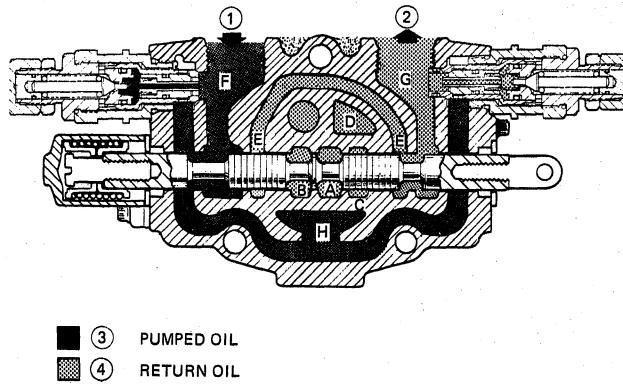

Figure 5
SPOOL OPERATION: Figure 5 illustrates the lift circuit valve in the "raise" condition. Other sections are similar.
Oil entering the control valve exerts equal pressure in the high pressure passage (D) and the open center passage (A), (B), (C). When the spool is positioned to raise the boom (moved to the left as shown in Figure 5), flow is restricted through the open center. The pumped oil, tending to follow the path of least resistance, diverts to the high pressure passage (D) where it unseats the check valve and flows into passage (E), around the spool into port (G) and on to the rod end of the lift cylinder. As a result, oil is forced from the piston end of the lift cylinder into port (F) of the control valve where it flows around the spool and into the return oil passage (H). The return oil flows through passage (H) to the outlet end cover. When the return oil reaches the outlet end cover, it will contact the four regenerative valves which interact to prevent a moving cylinder from voiding by using return oil for regeneration as required. If the control valve spool is moved to the opposite position, a reversal of the oil flow takes place. The check valve closes when oil flow stops.